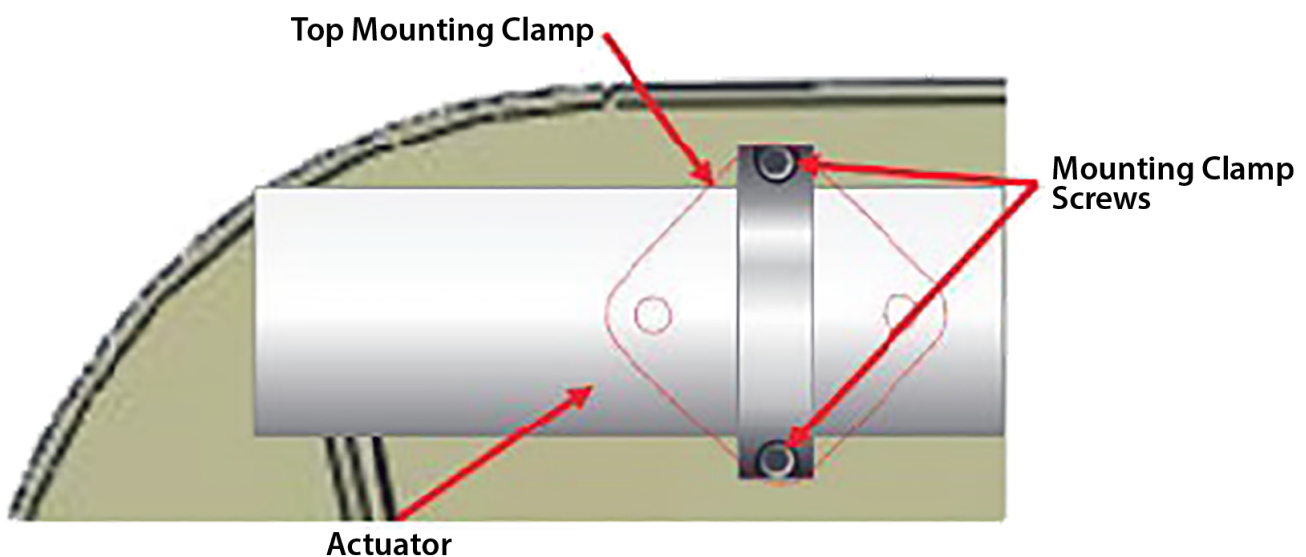

Fig.13
10. Line up and install the four mounting clamps to the hardtop (Fig.13).